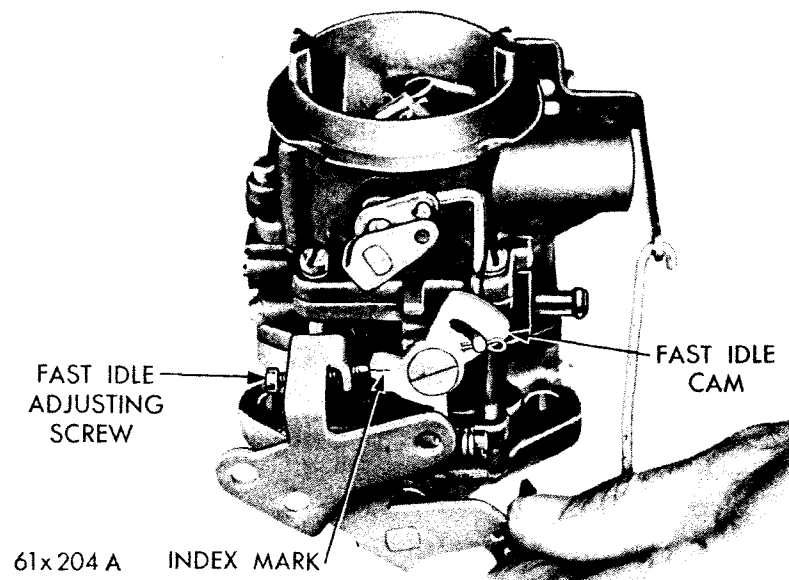

Fig. 59—Fast Idle Index Mark Aligned
(Fast idle applies only to carburetors with automatic choke.) To index the fast idle cam (carburetor removed), refer to Figure 59, then proceed as follows:
(1) Open the throttle valve and hold the choke valve in the fully closed position. This will position the fast idle cam at the fast idle index position.
(2) Now close the throttle valve. The index mark on the cam should split the center of the fast idle adjusting screw, as shown in Figure 59.